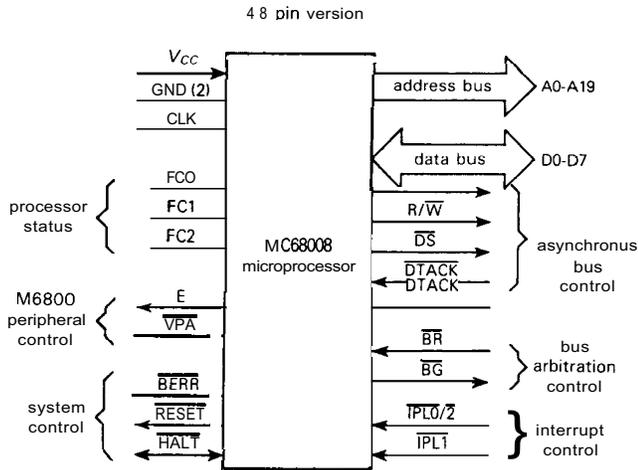

Figure 11.3. 68008 bus.
If you understood the IBM PC's bus signals, you won't have any trouble with the 68008's, which are similar. We've collected them in Table 11.4 (same format as Table 10.1) and Figure 11.3. The best way to learn about them is to look at the same progression as before: programmed data transfer ("programmed I/O"), interrupts, and DMA. It won't take long.
**CLK.** This is the CPU clock input, which we showed in Figures 11.3 and 11.4. We recommend using inexpensive commercial crystal oscillators in DIP packages for microprocessor clocks, available from companies like CTS, Dale, Motorola, Statek,